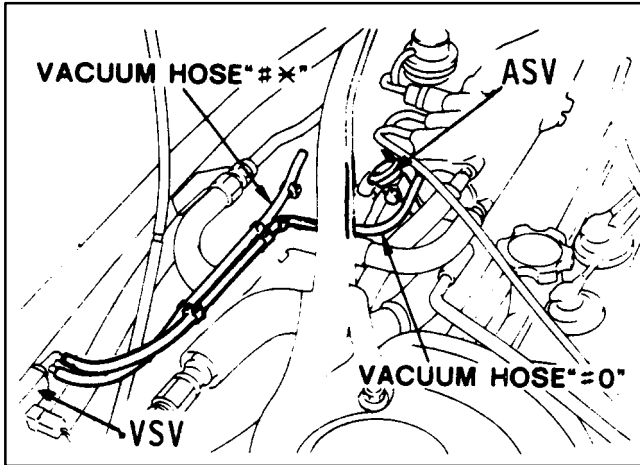

Figure 1
3. Remove vacuum hose marker "#*" from the top port of the ASV as shown in figure 1. Remove vacuum hose marked "#0" from the VSV, and connect it to the top port of the ASV as shown in figure 2.